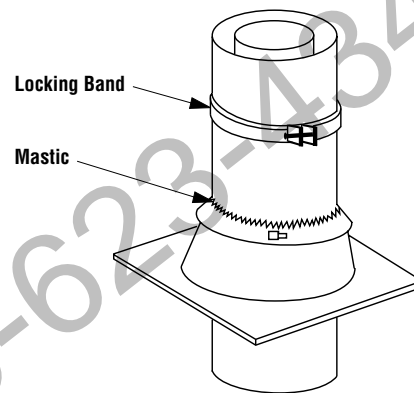

Figure 32
Step 8. The standard FireCraft FTF10 roof flashing assemblies include a storm collar. Slide the storm collar over outer chimney, rest on flashing spacers and align with top surface of flashing. Insert tab in slot, pull tight and bend tab back over slot. Seal storm collar to outer chimney with roof caulking or mastic around entire circumference of pipe. Also add extra roof caulking to the tab/slot area to seal completely against water penetration (Figure 32). Check all joints very carefully to ensure no water intrusion can take place.